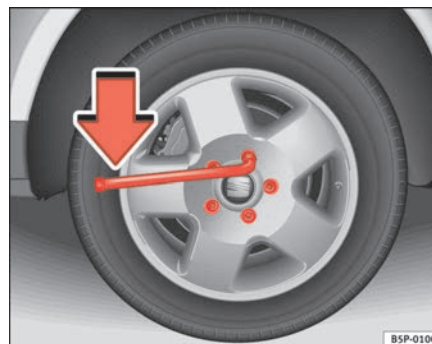

Fig. 169 Changing the wheel: loosen the wheel bolts
- Grasp the box spanner by the end turn it about one full turn to the **left** ⇒ fig. 169.